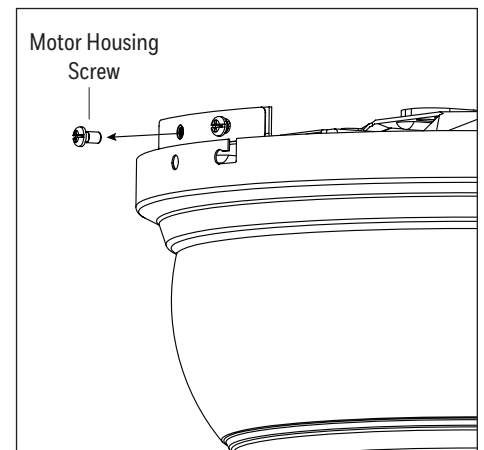

Figure 2.6
6. Temporarily lift the motor housing to the mounting bracket to determine which two motor housing screws in the sides of the mounting bracket align with the slotted holes in the top edge of the motor housing. Partially loosen the two motor housing mounting screws that align with the slotted holes. Remove the other two motor housing screws from the opposite sides of the mounting bracket (Figure 2.6).